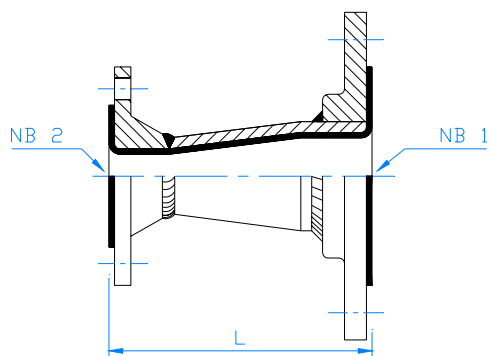

Fig. 8.11
8.11. CONCENTRIC REDUCERS (FIG. 8.11)